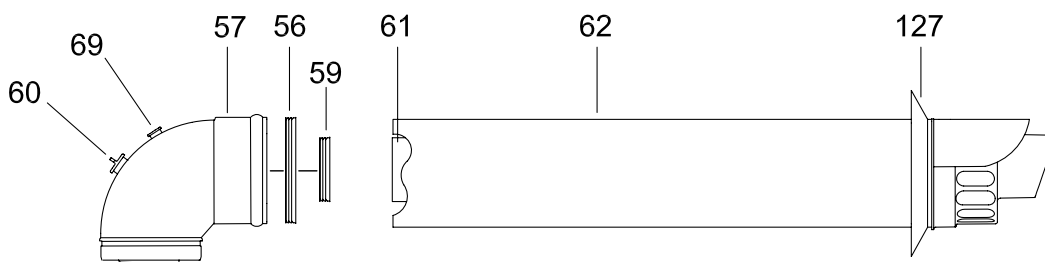

Fig 10
### HORIZONTAL FLUE KIT BOX CONTAINING (Fig 10):
**Note:** Add 30mm to overall flue length to allow for terminal wall cover.( fig.10 item 127).
**Note:** Add 30 mm to overall flue length to allow for terminal rubber wall seal ( fig.10 item 127).
Working above the boiler pull the flue duct towards the elbow in order to engage the tube into its header (fig.10). Position the flue elbow in line with the flue and push so as to locate inner and outer flue correctly. Ensuring a good seal is made with O-rings. Tighten the two screws on the flue flange to secure the elbow header in place.
Terminal rubber wall seal must be fitted (item 127 fig.10).